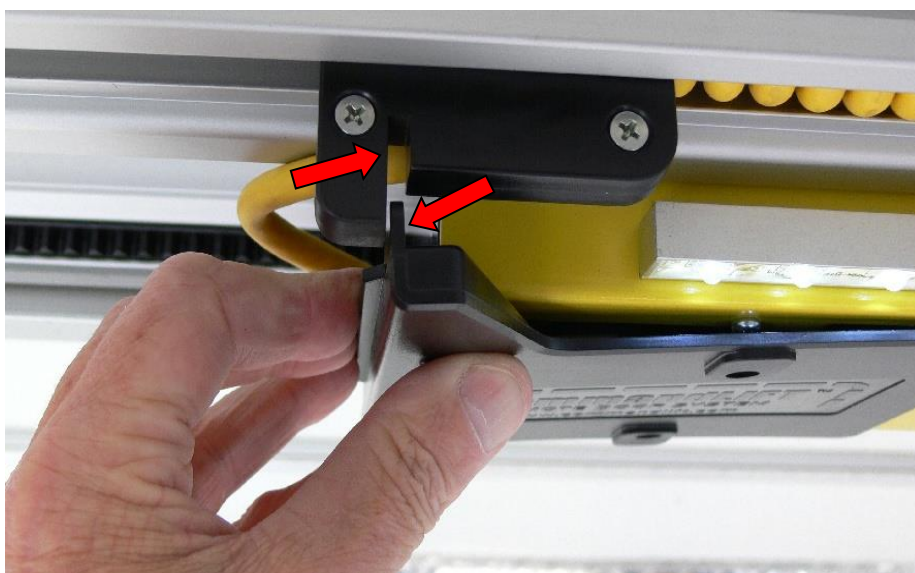

Figure 5 – Replace Cover Plate
3. Replace the black plastic cover on the motor unit (see figure 5, below). Make sure the tab on the cover fits into the slot on the coil cable slider assembly. Replace the 4 mounting screws.